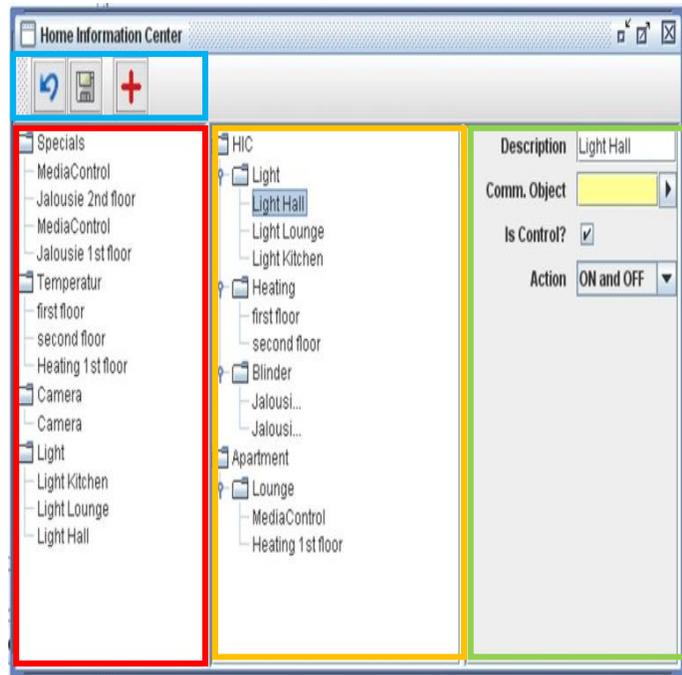

Figure 38: Editor HIC
The Home information centre consists of views, folders and elements. (Figure 38)
- **Menu bar** (Figure 38, blue rectangle)
- **Element View** (Figure 38, red rectangle)
- **Project view** (Figure 38, yellow rectangle)
- **Parameter** (Figure 38, green rectangle)